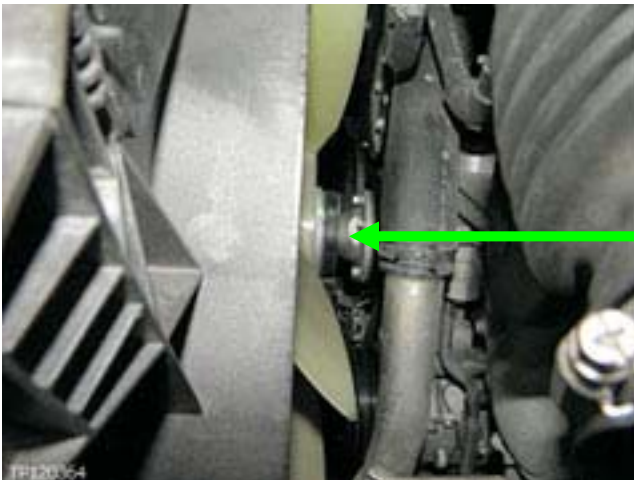

Figure 4
7. If the fan speed will not increase (step 5) or decrease (step 6) using Active Test, replace the fan coupling shown in Figures 4 and 5, then go to step 8 for ECM reprogramming.